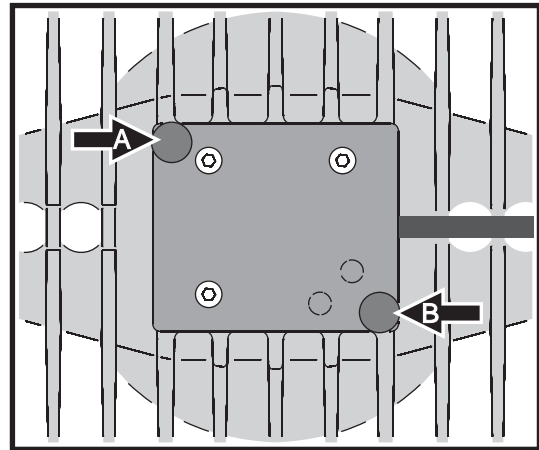

Figure 2: Lamp access cover retaining screws
- The lampholder is an integral part of the lamp access cover. See Figure 2. Remove the two thumbscrews **A** and **B** from the lamp access cover and lift the cover gently away from the fixture until the lamp is clear. Avoid straining the lamp wiring.